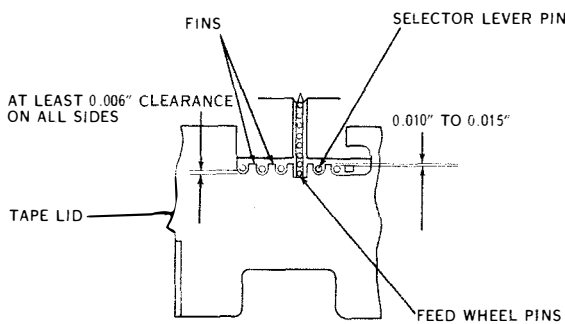

Figure 7-101. Tape Lid (Horizontal)
(39) TAPE LID (HORIZONTAL). (See figure 7-101.)—The tape lid should be positioned to meet the following requirements: